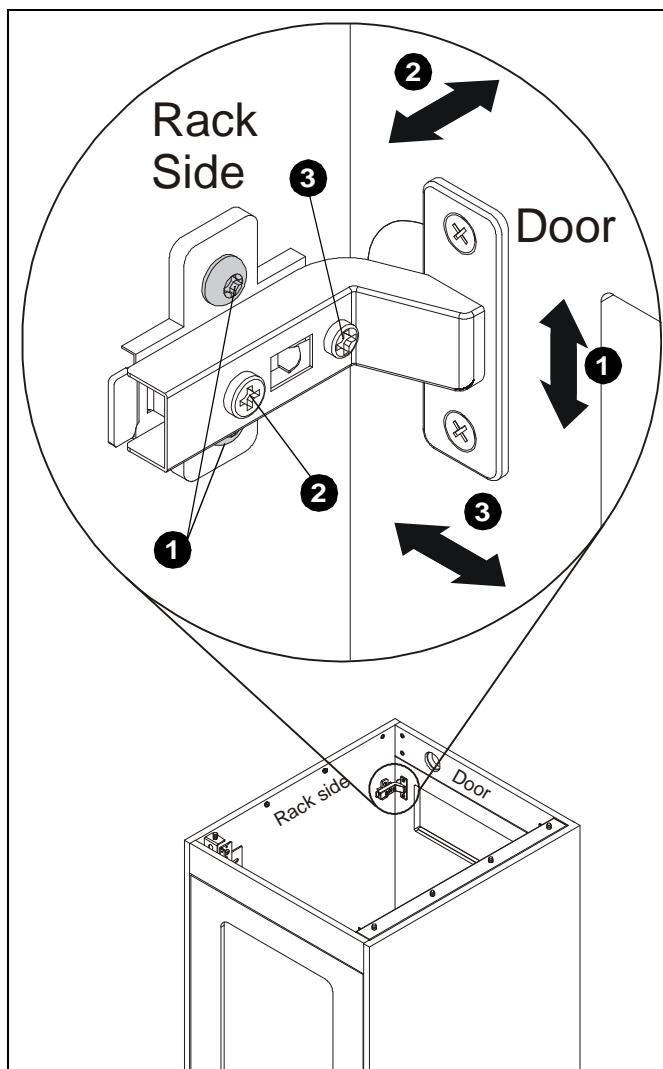

Figure 5
If necessary, the door hinges may be used to adjust the depth, horizontal or vertical placement of the doors (See Figure 5).
1. Adjusting these screws will allow vertical adjustment (up and down) of the door. (See Figure 5)
2. Adjusting this screw will allow depth adjustment (into and out from rack) of the door. (See Figure 5)
3. Adjusting this screw will allow horizontal adjustment (side to side) of the door. (See Figure 5)